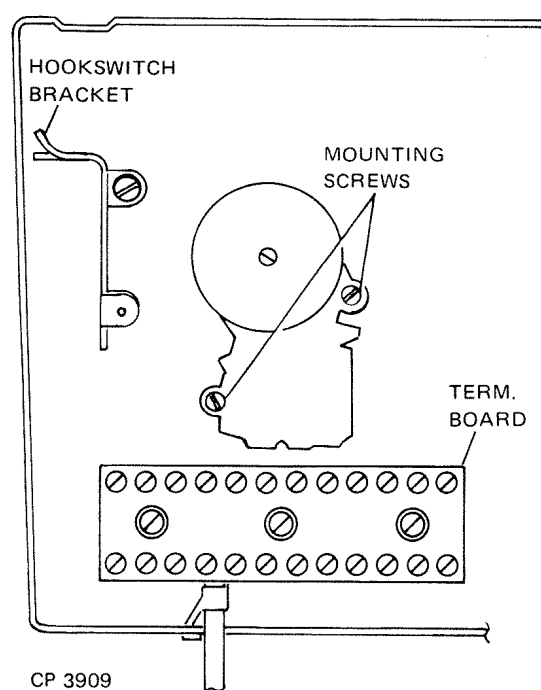

Figure 4. S-C Series 20 Straight-Line Ringer Mounting
1. S-C series 20 straight-line ringer (fig. 4).